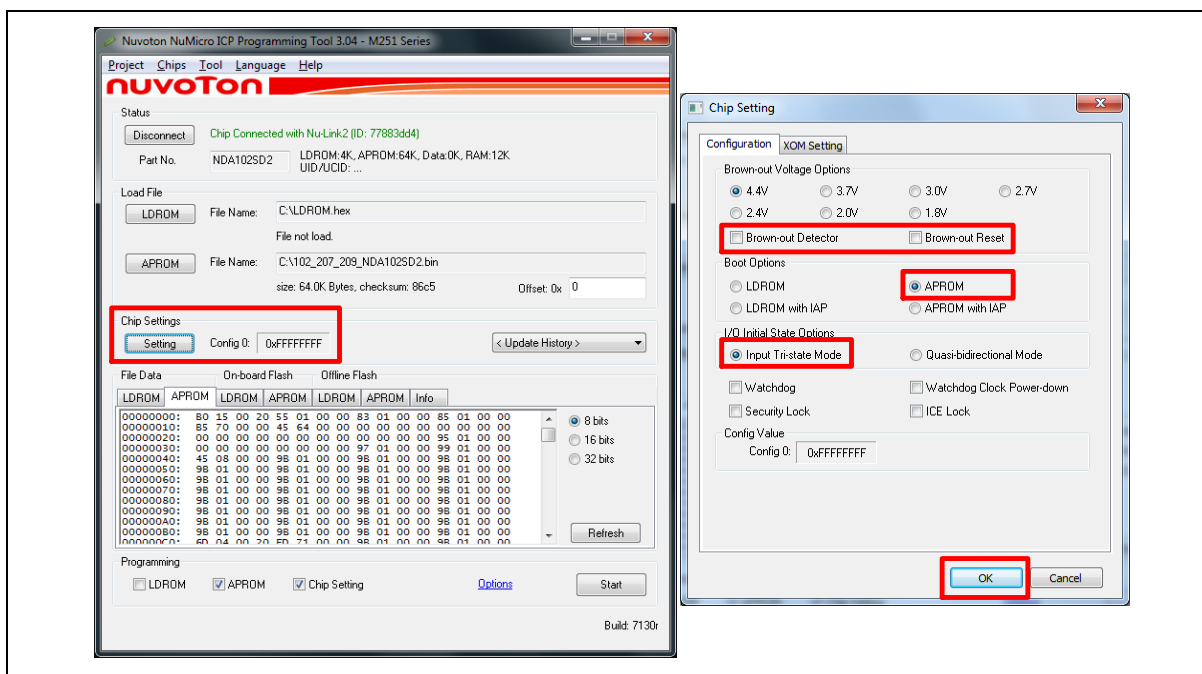

Figure 5-22 Default Chip Setting
- Configure the “Chip Settings”. The default setting for Nuvoton DALI project is shown as Figure 5-22.